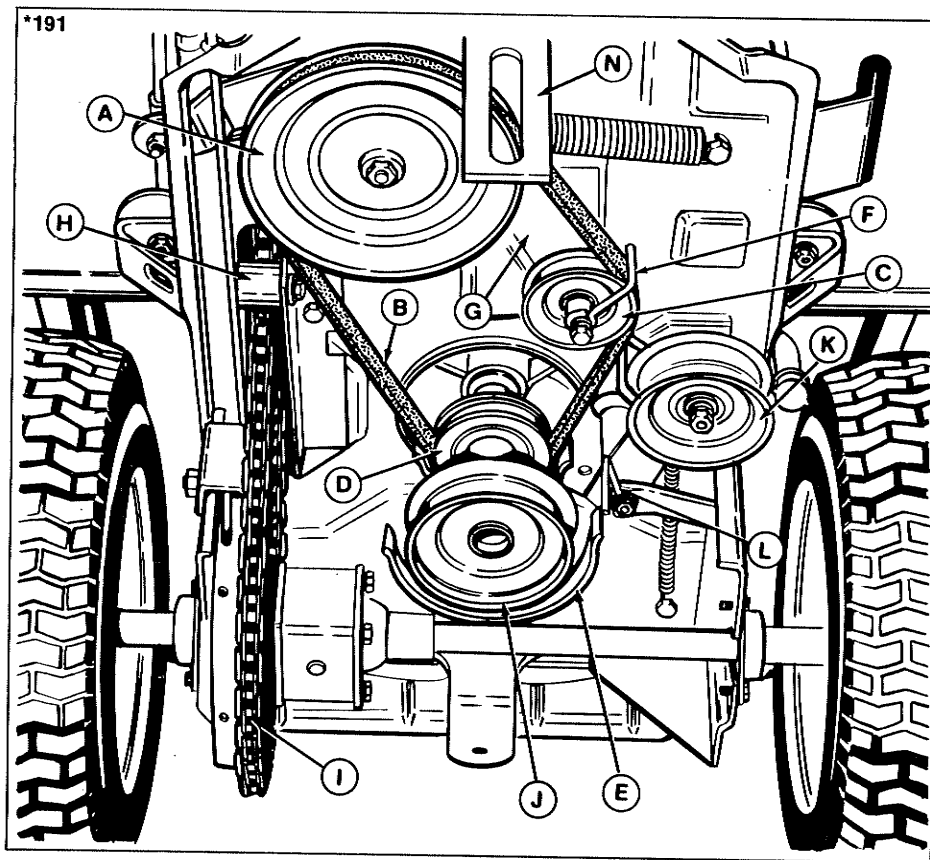

Figure 20. Rider & Mower Drive
- Refer to figure 20. Adjust the idler pulley belt stop (F) so it is at a 90° angle to the idler arm (G).
- Adjust the belt guard (E) so there is 1/8" (3 mm) clearance between guard and lower pulley. To move belt guard, loosen its two mounting capscrews and slide guard rearward or forward.
- Refer to figure 20. Adjust the mower drive belt stop (L) so it is parallel with the rider.
- Adjust the traction drive idler pulley belt stop (F) so it is at a 90° angle to the idler arm (G).
- Adjust the belt guard (E) so there is 1/8" (3 mm) clearance, between guard and lower pulley. To move belt guard, loosen its two mounting capscrews and slide guard rearward or forward.
This procedure assumes the belt is installed on the engine PTO pulley (J, figure 20) and idler pulley (K).
This procedure assumes the mower drive belt is already installed on the PTO pulley (J, figure 20) and idler pulley (K).